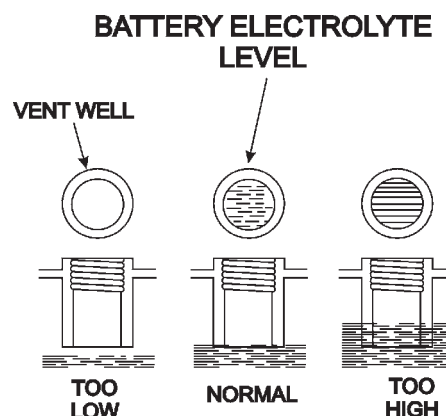

Figure 42. Battery Fluid Levels
- Check the battery regularly and make sure that each electrolyte level is to the bottom of the vent well (Figure 42). If necessary add only distilled water in a well-ventilated area.